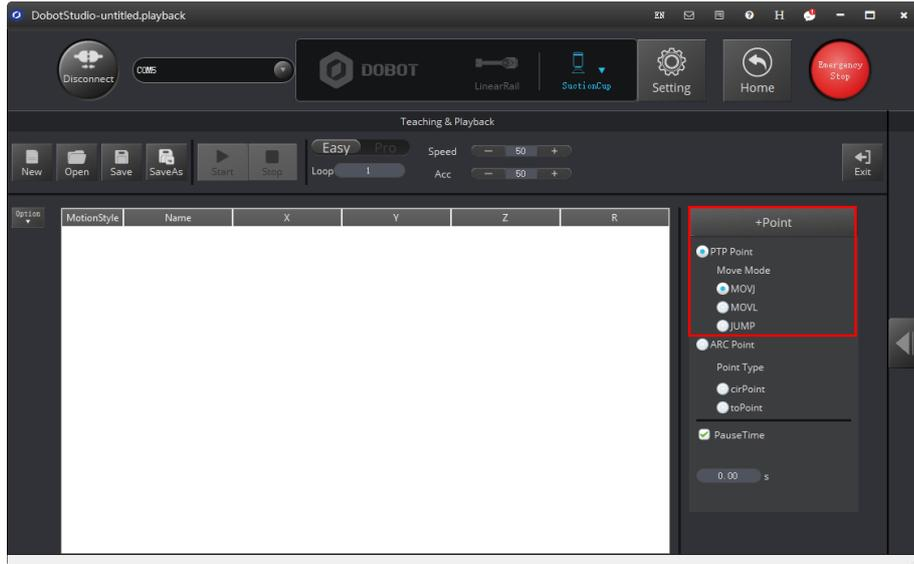

Figure 2.20 Select MOVJ motion mode
2. Select **PTP Point > MOVJ** mode in the Save Point area, as shown in Figure 2.20.